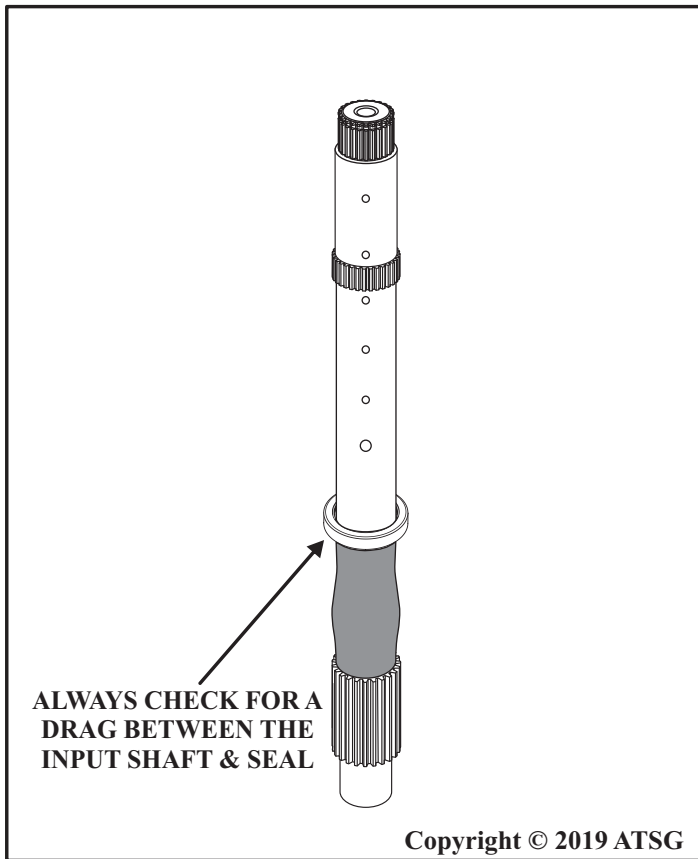
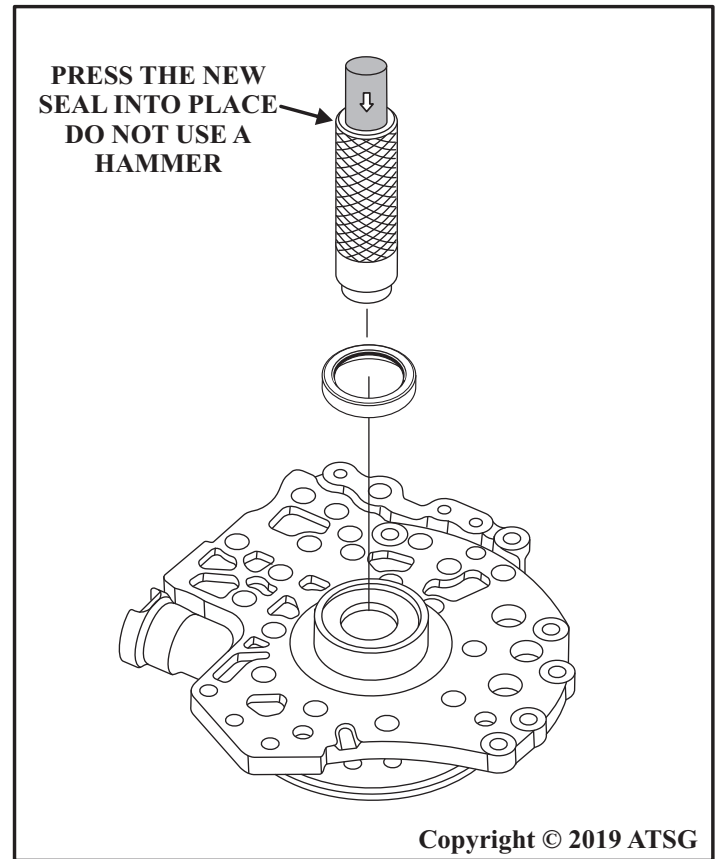

Figure 1
Figure 2
**CORRECTION:** A new input shaft seal was installed and the fit to the input shaft was checked and it had a drag on the shaft. Always check the fit of the new seal on the input shaft for drag as shown in figure 1. Press the new seal in place, refer to figure 2, do not use a hammer which could deform the seal causing the above complaints.